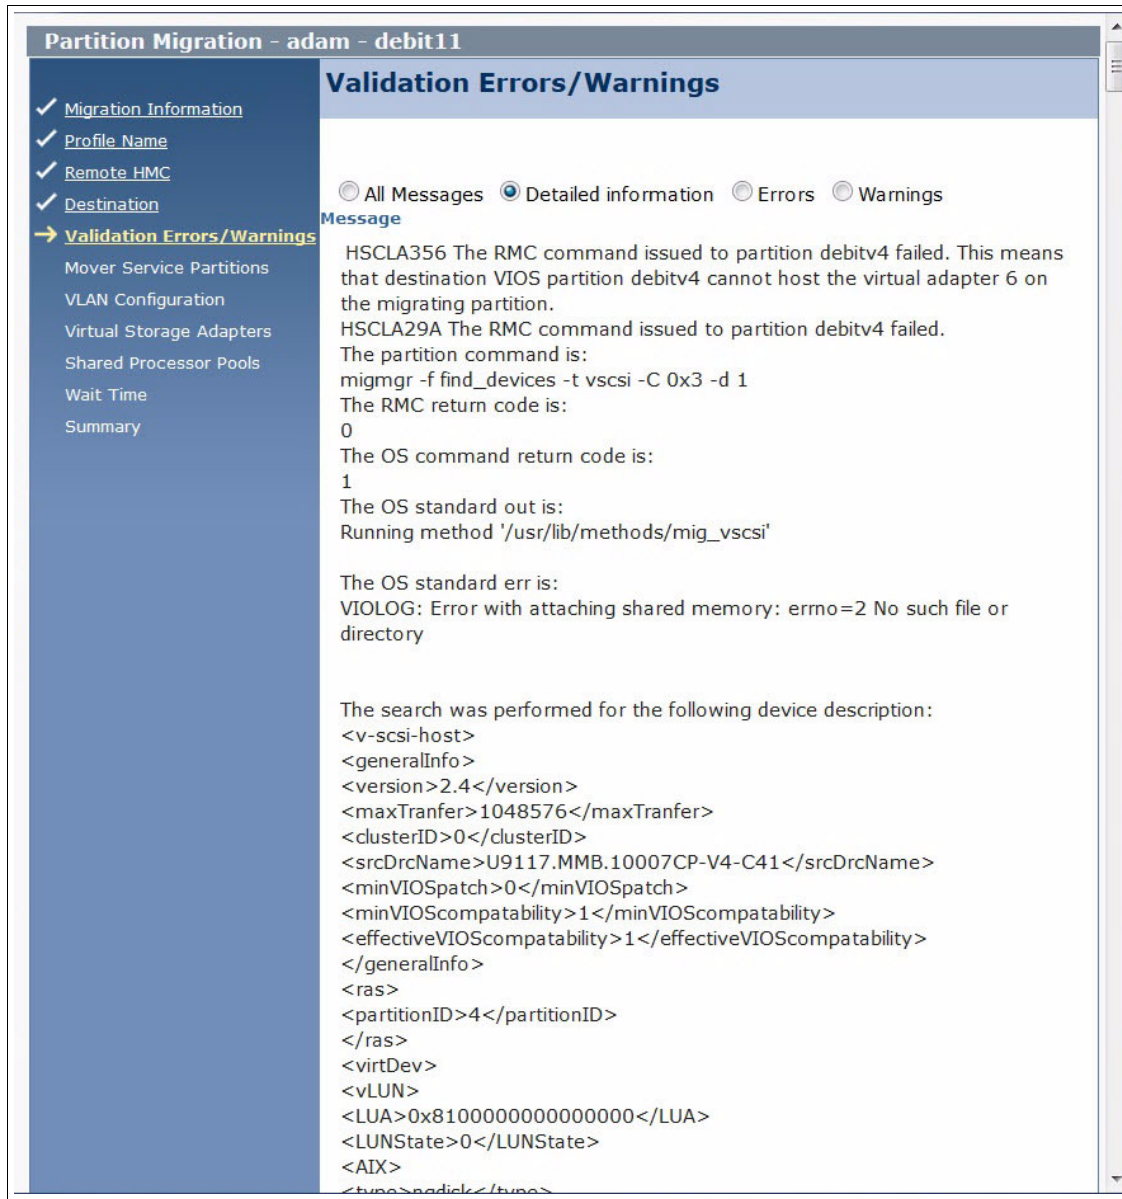

Figure 14-13 Sample of Partition Validation Errors/Warnings
- Check errors or warnings in the Partition Validation Errors/Warnings panel shown in Figure 14-13 (updated 3/4/14) and eliminate any errors. If errors exist, you cannot proceed to the next step. If only warnings exist, you can proceed to the next step.